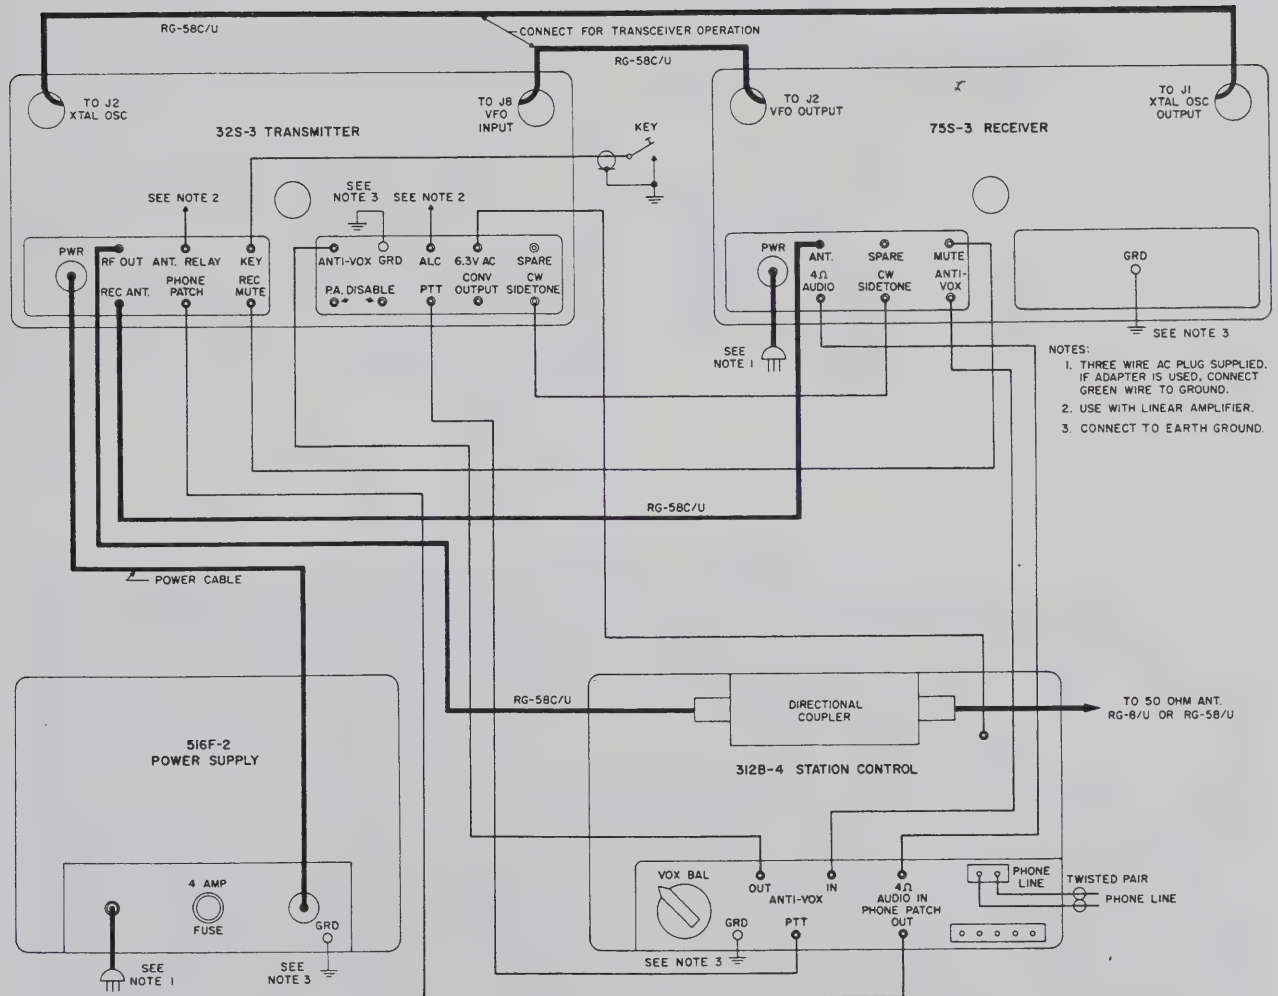

Figure 1-2. Station Interconnections
1.2.2 CABLING WITH 32S-3 TRANSMITTER. Figure 1-2 shows a complete station interconnection for a 75S-3 or 75S-3A Receiver, 32S-3 Transmitter, and
- Connect the 32S-3 and 75S-3/3A as shown in figure 1-2.